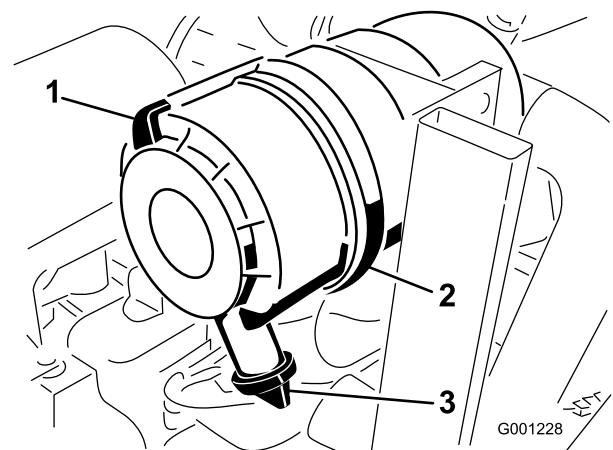

Figure 38
1. Pull latch outward and rotate air cleaner cover counter-clockwise (Figure 38).
5. Install the cover orienting the rubber outlet valve in a downward position – between approximately 5:00 to 7:00 when viewed from the end (Figure 38).